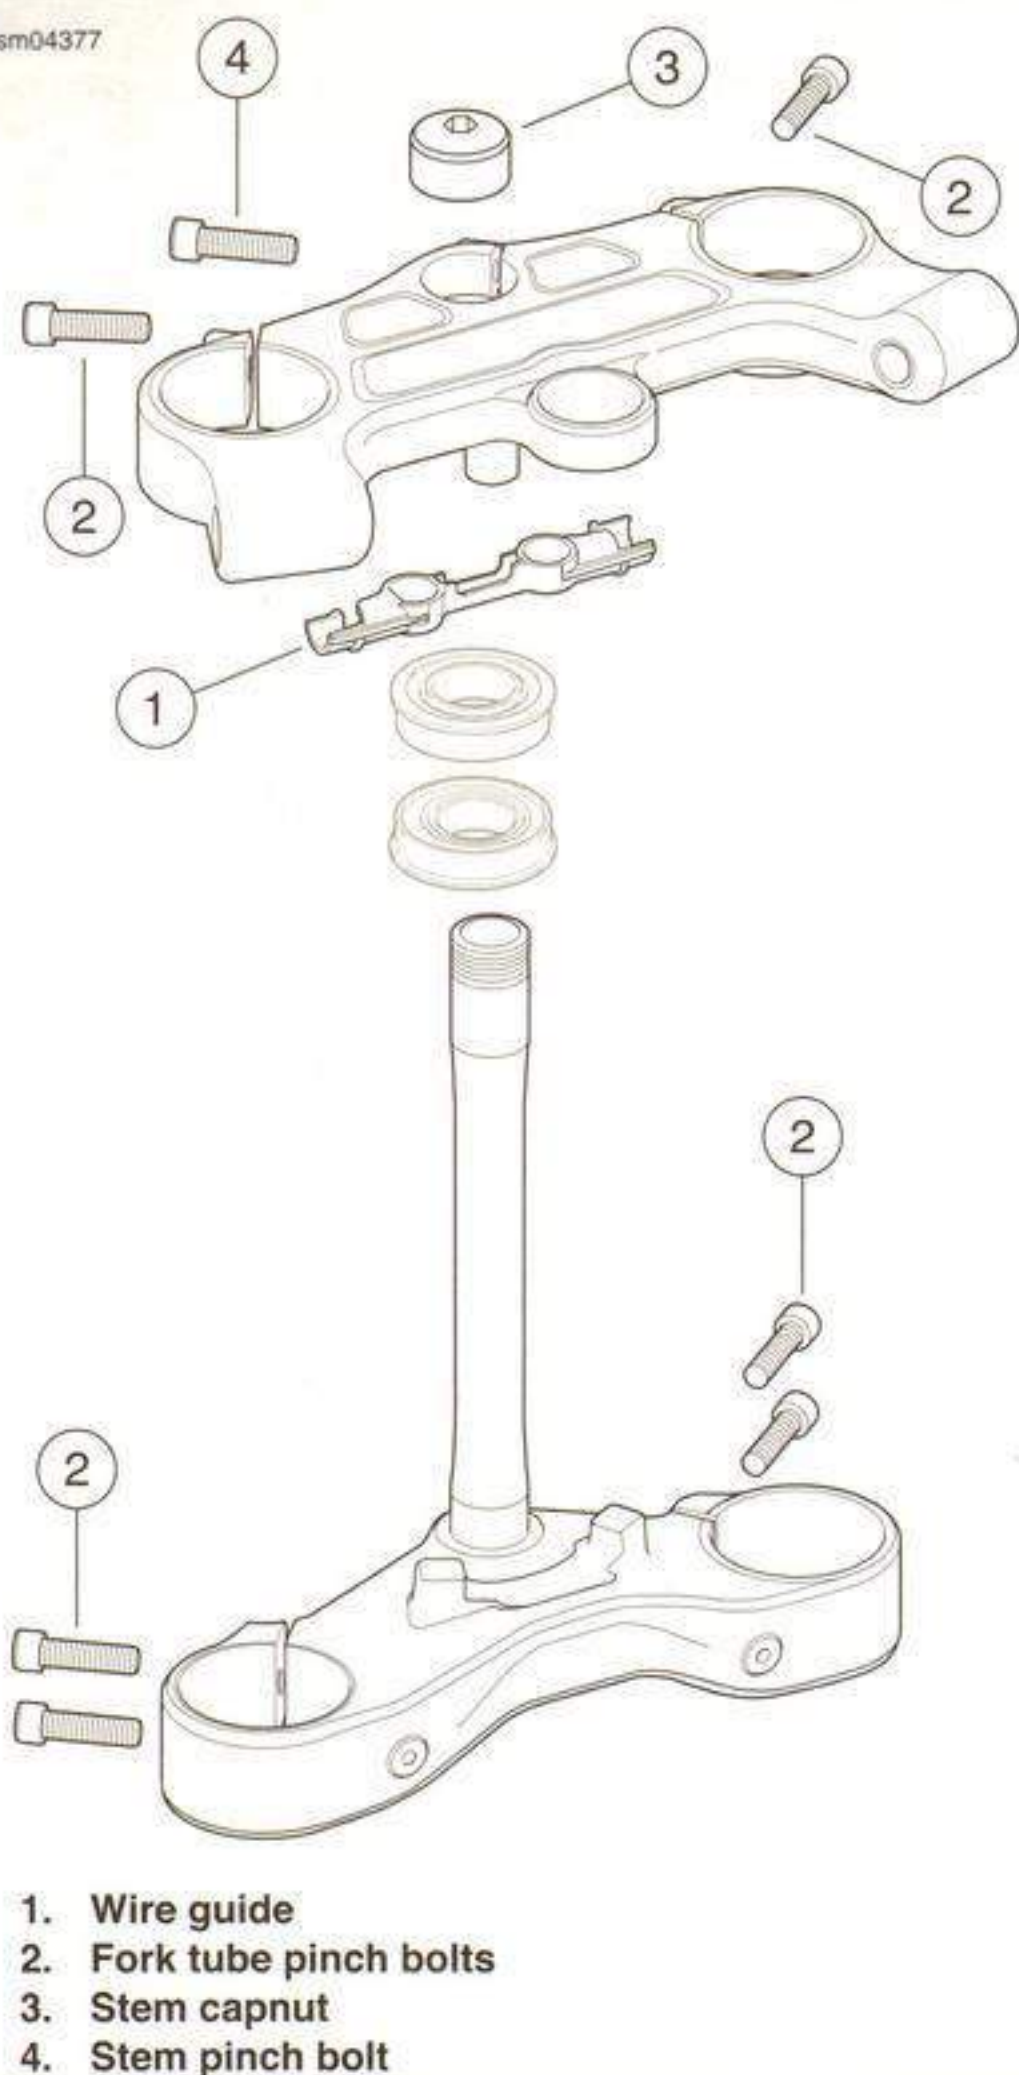

Figure 2-96. Fork Clamp Steering Stem Assembly: 1125R
10. See Figure 2-96. Install wire guide unto upper fork clamp.
1. See Figure 2-96. Remove wire guide from upper fork clamp.
6. Remove steering stem pinch fastener (4).
7. Hold or brace the lower fork clamp and remove steering stem capnut (3).